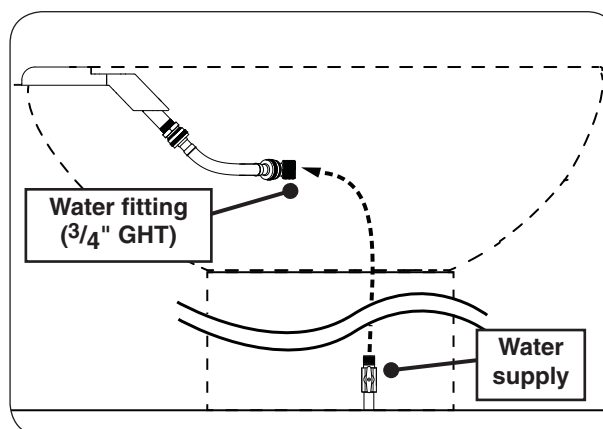

Fig. 30-2 Connect water supply (if applicable)
2. Plumb the water supply to the $\frac{3}{4}$ " GHT fitting (see Fig. 30-2).